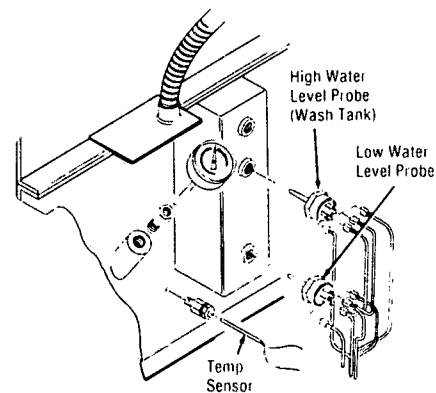

Figure 8-12. WATER LEVEL PROBES AND TEMPERATURE SENSOR.
2. To replace the water level probe, detach and tag the wires, and unscrew the probe from the base, as shown in Figure 8-12.
3. To replace the temperature detector, unscrew the fitting in which the detector is fitted and remove the detector, as shown in Figure 8-12.